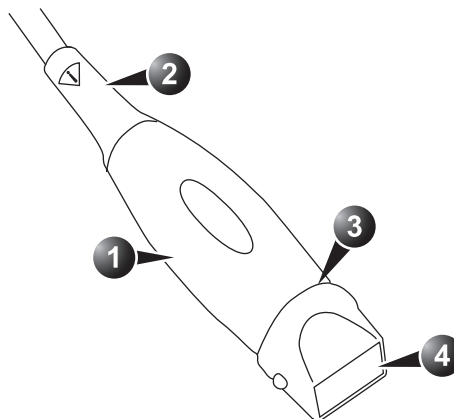

Figure 10-4: Probe parts
1. Inspect the lens, the probe housing and the cable (Figure 10-4).